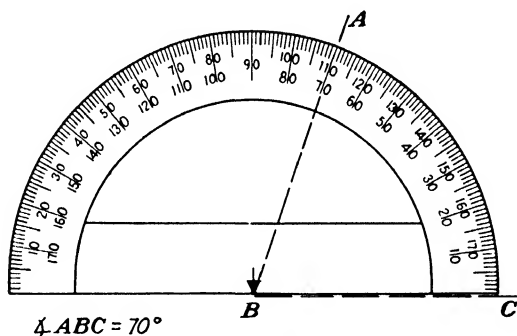

Fig. 101.
- Place the protractor so that the straight edge coincides with the line  $BC$  (see Fig. 101).